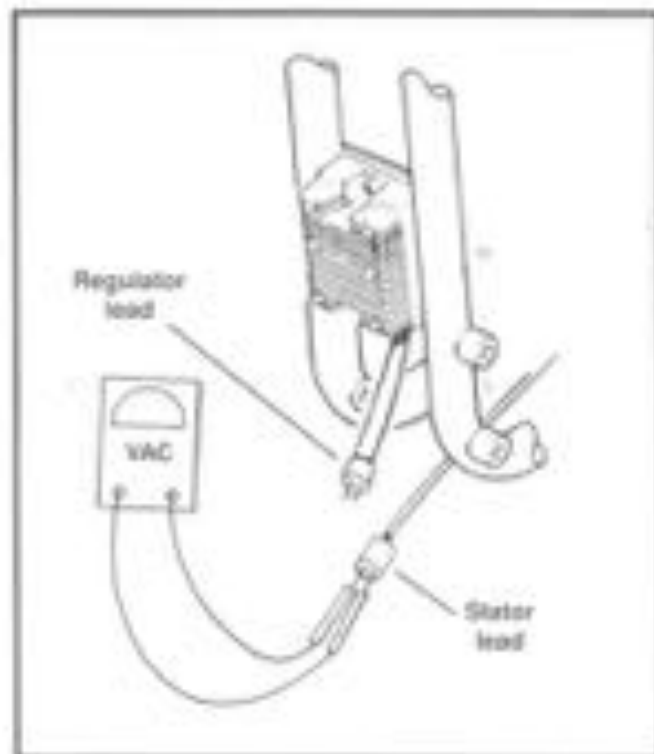

Figure 7-46. Check Stator AC Voltage Output
1. See Figure 7-46. To test AC output, disconnect the regulator and connect an AC voltmeter across both stator sockets. Run the engine at 2000 R/P/M. The AC output should be 36-52 volts AC.